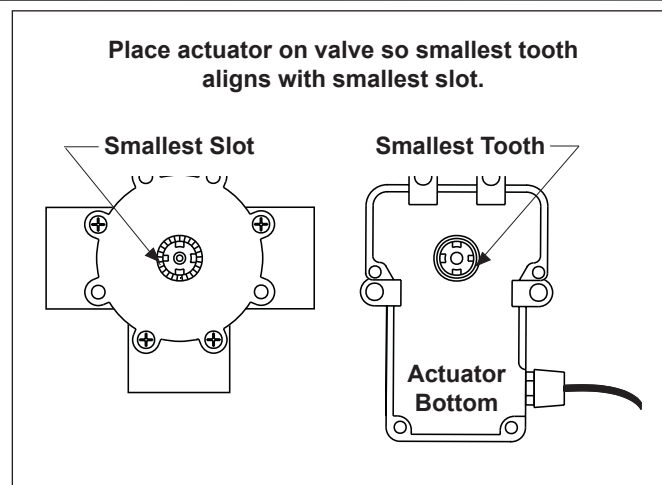

Figure 5. Actuator Mounting
3. Turn the actuator over to see into the actuator shaft. There are four (4) "teeth" inside of the shaft. Align with the smallest slot on the valve (see Figure 5).